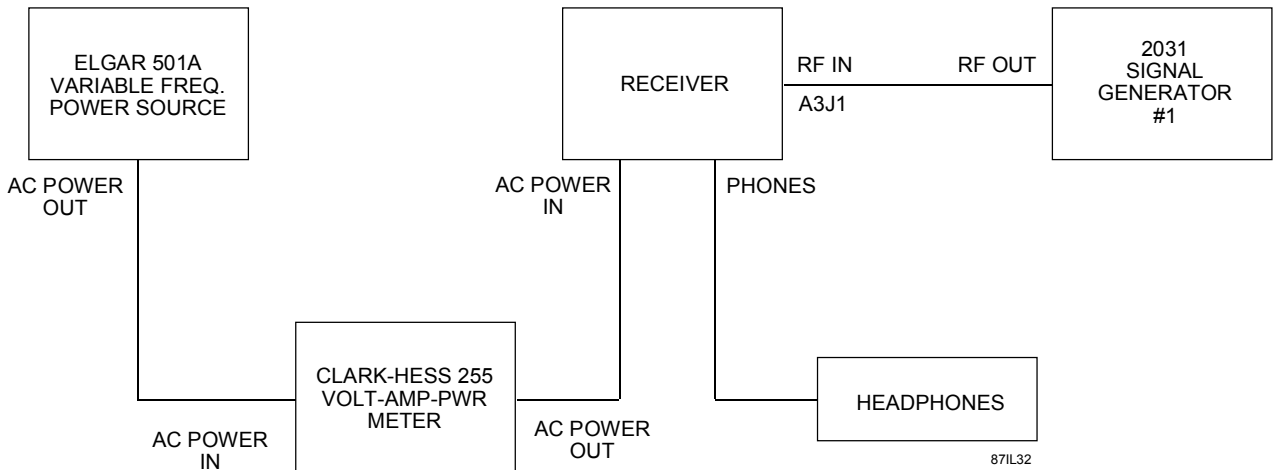

Figure 7-1. Power Consumption Performance Test Equipment Connection
1. Connect the WJ-8711A Receiver and test equipment as illustrated in *Figure 7-1*.